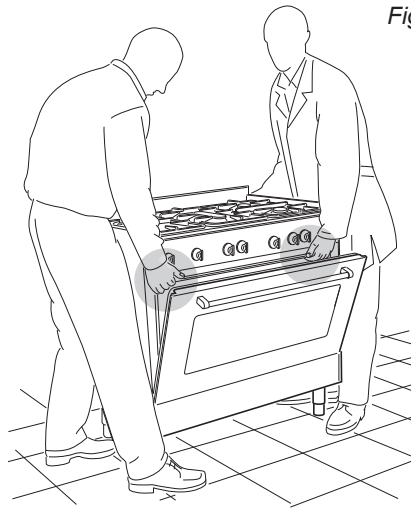

Fig. 1.10
**WARNING:** When raising cooker to upright position always ensure two people carry out this manoeuvre to prevent damage to the adjustable feet (fig. 1.10).
When moving cooker to its final position **DO NOT DRAG** (fig. 1.12). Lift feet clear of floor (fig. 1.10).